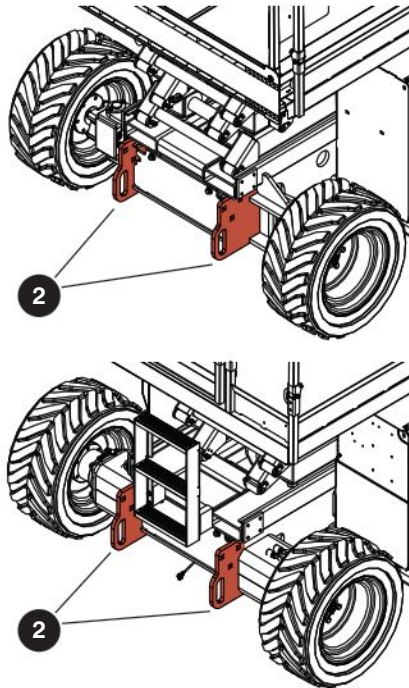

Figure 07 Tie-downs/lift points
- Attach the rigging to all **four lift points 1**. Refer to *Figure 07*.